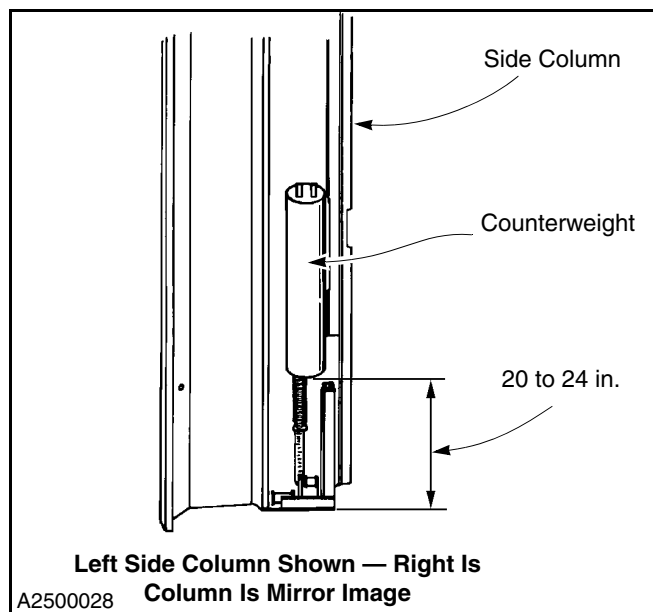

Figure 54
- Securely support the counterweight at the position shown in Figure 54.
- Adjust the length of the counterweight strap as required to achieve the position shown in Figure 54.
- Remove the support from the counterweight and allow it to hang free. If required, readjust strap to position the counterweight as shown in Figure 54.